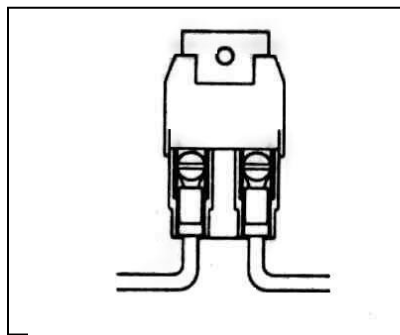

Figure 7.3 Maxi-Fuse
- 7.4.1** Install Maxi-Fuse (**Figure 7.3**) onto the end of ENGINE SECTION (single) 10- gauge wire #916 (red) AFTER having routed wire from the fuse panel to the starter solenoid. This link is two (2) gauges smaller than wire #916 and serves as a fuse to protect the entire harness. DO NOT OMIT IT!